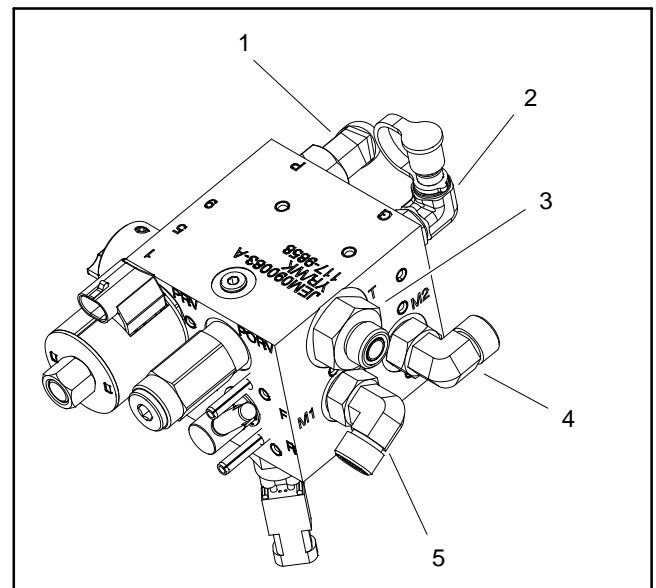

Figure 64
7. Remove two (2) flange head screws (item 7) that secure manifold to machine frame. Remove manifold assembly from the machine.
8. If hydraulic fittings are to be removed from manifold, mark fitting orientation to allow correct assembly. Remove hydraulic fittings and O-rings from manifold (Fig. 64). Discard removed O-rings.
1. If fittings were removed from manifold, lubricate and place new O-rings onto fittings. Install fittings into manifold openings making sure that fitting orientation is as noted during removal (Fig. 64). Properly tighten fittings (see Hydraulic Fitting Installation in the General Information section of this chapter).
2. Position manifold assembly to the machine frame. Secure assembly to the frame with two (2) flange head screws (item 7).